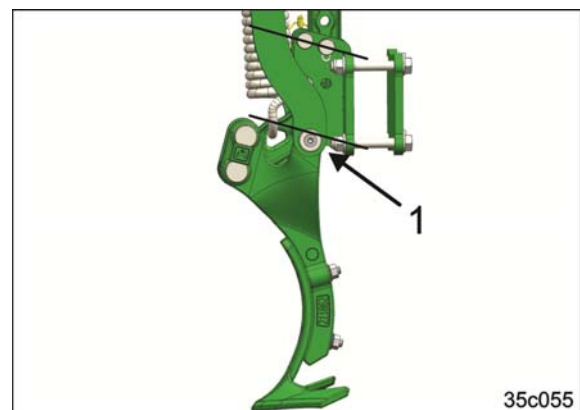

Fig. 125
- By turning the tractor wheel mark eradicator bracket (Fig. 125/1), the working depth can be reduced.